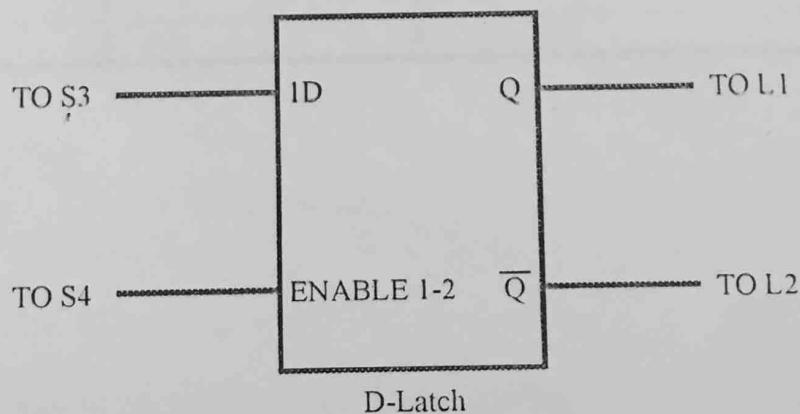
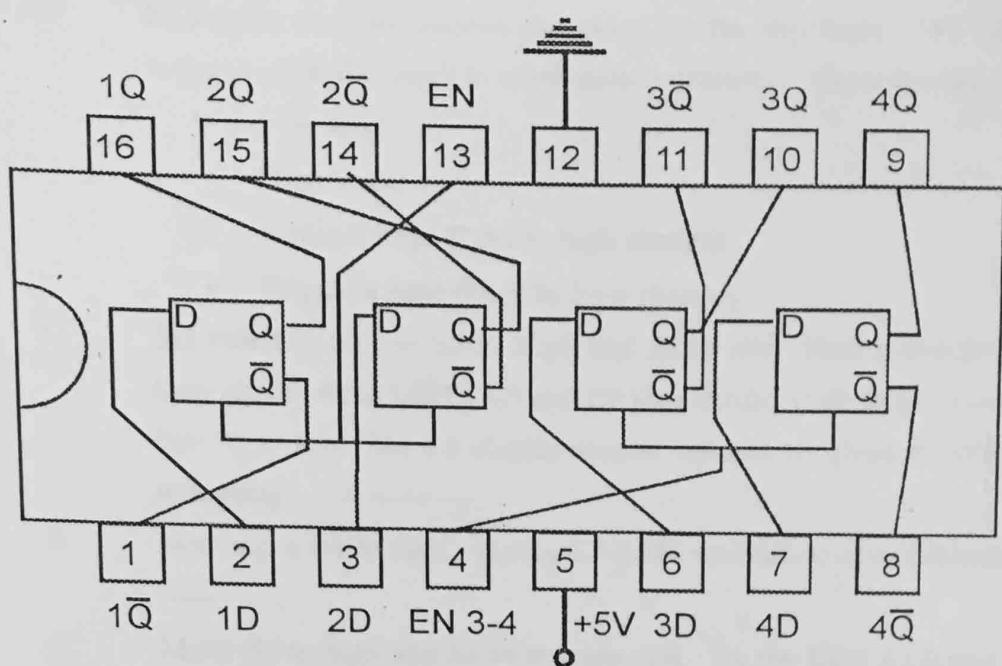

Figure 19.1
Figure 19.2
4. Wire the circuit according to the diagram in Figure 19.1 by consulting IC's data sheet in Figure 19.2